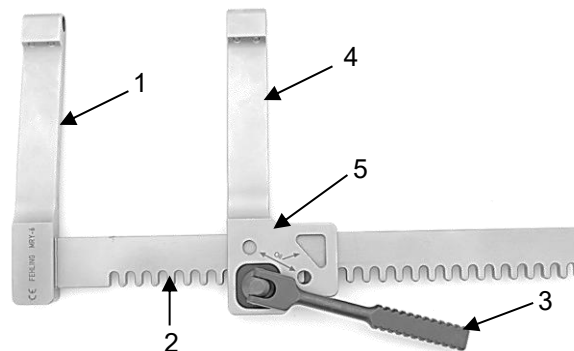

Fig. 14
Figure 14 shows the MARJAN MGH retractor, a U-shaped bar retractor with a pinion. The bar retractor consists of a fixed retractor arm (1), a toothed rack (2) and a movable retractor arm (4).